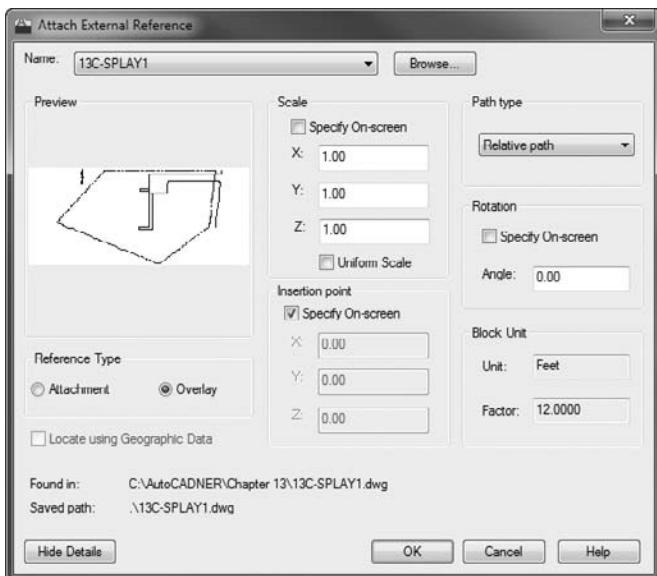

FIGURE 13.14 The External Reference dialog box with 13C-SPLAY1 as the named reference
5. Click Open to open the Attach External Reference dialog box, and then click the Show Details button in the bottom-left corner to display the reference paths (see Figure 13.14).
The Attach External Reference dialog box should look like Figure 13.14.